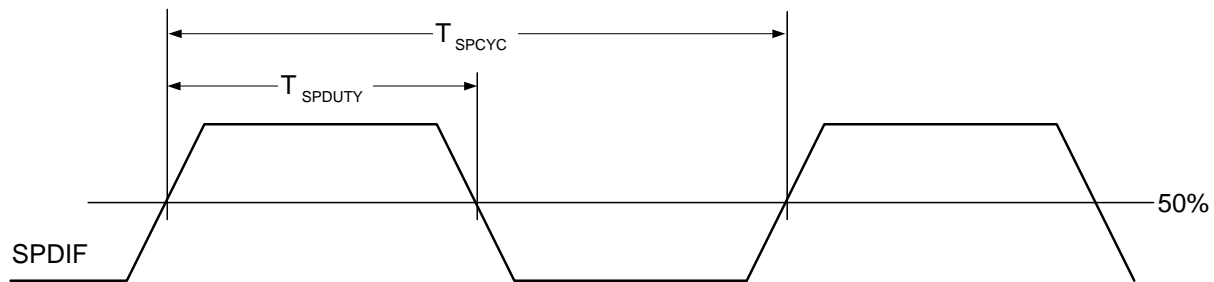
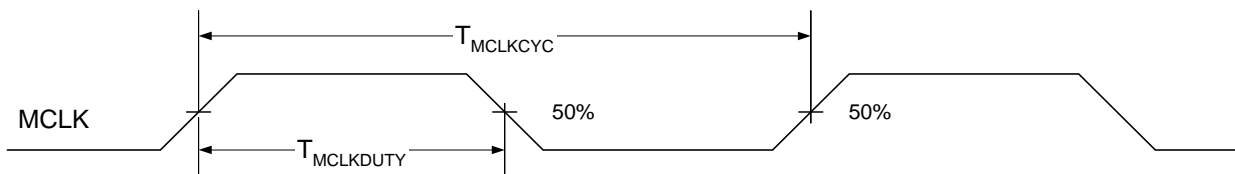

Figure 4.7. S/PDIF Output Timing
Figure 4.8. MCLK Timing
1. Proportional to unit time (UI), according to sample rate. Refer to the S/PDIF Specification.
2. Refer to Figure 4.7 and Figure 4.8 on page 22.